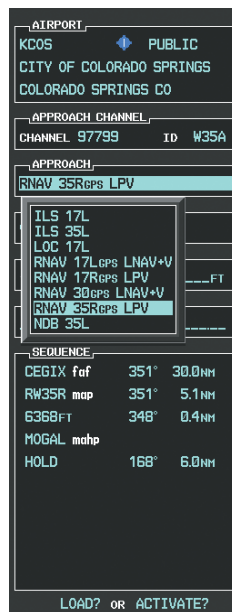

Figure 5-126 List of Available Approaches
c) Press the **ENT** Key. A list of available approaches for the destination airport is displayed as in Figure 5-126.
d) Turn either **FMS** Knob to select the LPV approach for 35R as shown in Figure 5-126.